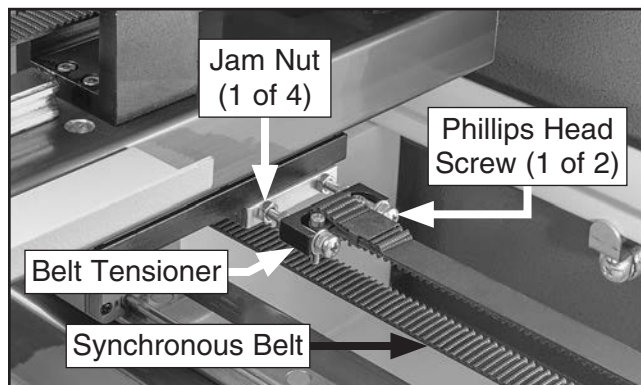

Figure 77. Y-axis belt tensioner components.
4. To adjust belt tension, loosen (4) jam nuts on belt tensioner, loosen or tighten (2) Phillips head screws, then secure jam nuts (see **Figure 77**). Repeat **Step 3**.